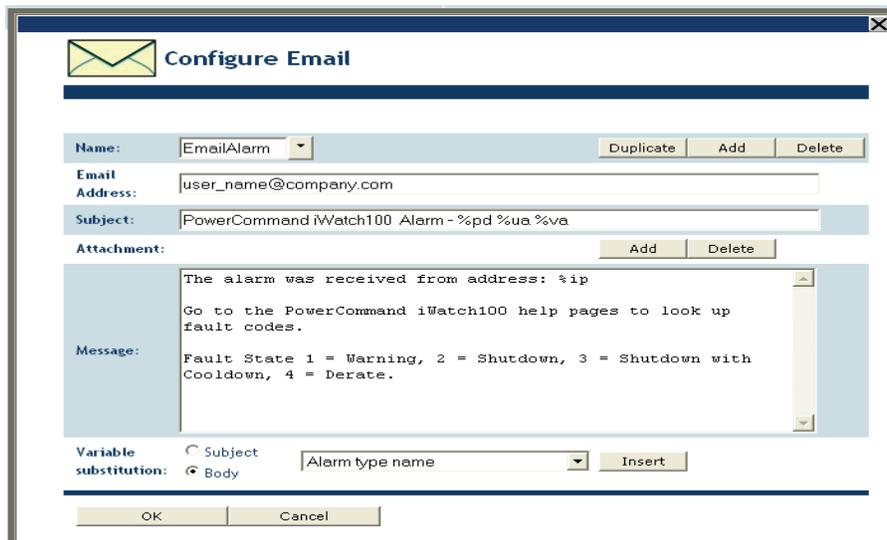

FIGURE 6-3. ENTER DESTINATION E-MAIL ADDRESS
5. When the new window appears, click on **Email Alarm**. The screen in Figure 6-3 appears.